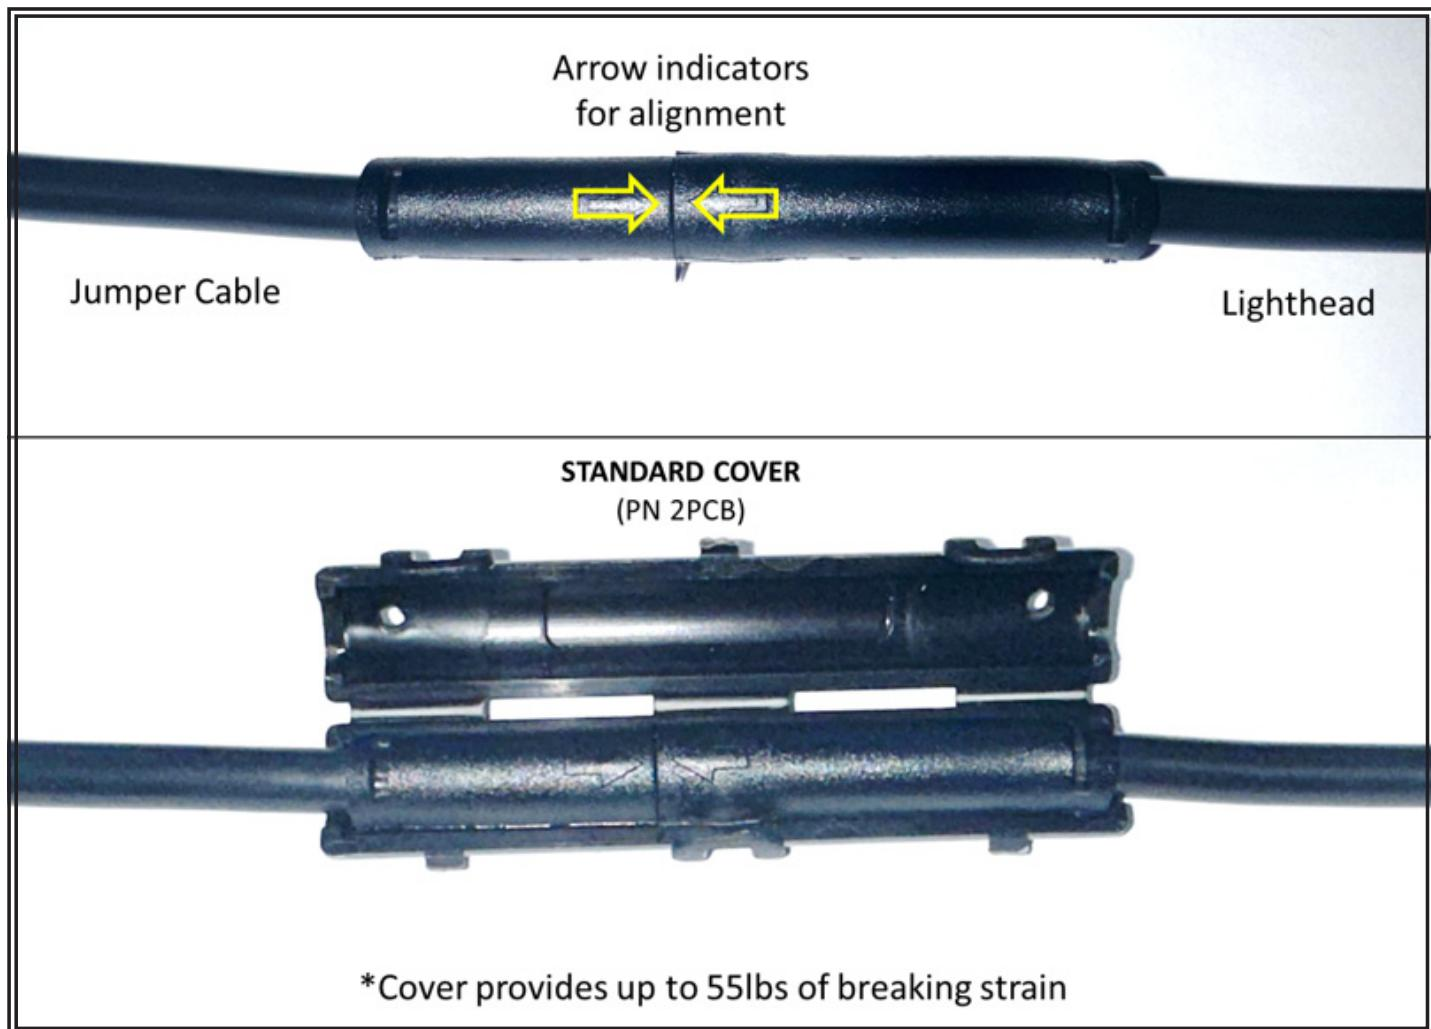

Figure 4
4. Attach the jumper cables (female connector side) to the Switchnode harness and route to where the lightheads will be mounted on the vehicle. Use arrow indicators on connectors for proper alignment. Add optional covers. See Figure 4.
5. Attach lightheads to the jumper cables. Use arrow indicators on connectors for proper alignment. Add optional covers. See Figure 4. Mount the lightheads per the install instructions included with each product. Some lightheads may include two connectors. Each connector will connect back to the Switchnode outputs.